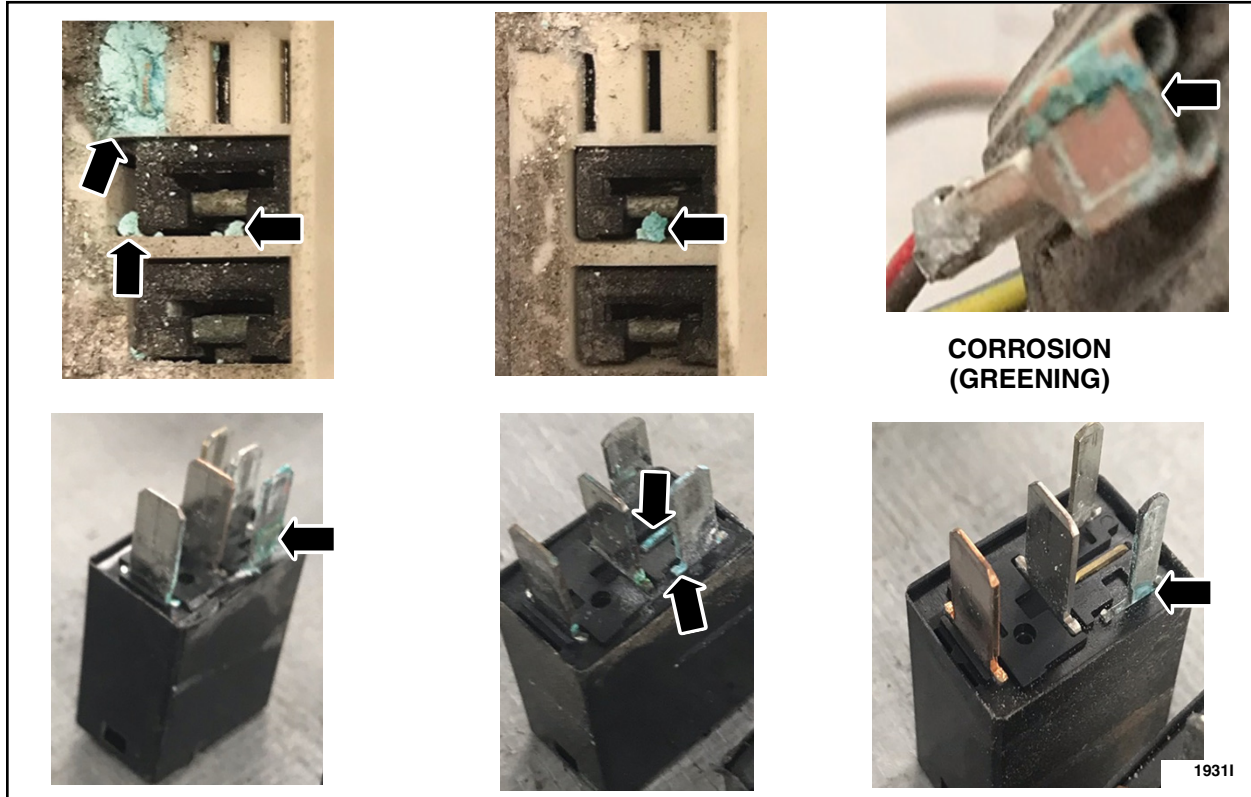

FIGURE 2
2. Using a test light and the appropriate Rotunda Flex Probe, verify the terminals for the affected relay, boxed fuse, or mini-fuse are not loose or corroded and the relay, boxed fuse, or mini-fuse is able to conduct current. Is a concern present with a terminal that can be repaired using a terminal repair kit? See Figure 2 for examples of terminal greening or corrosion.